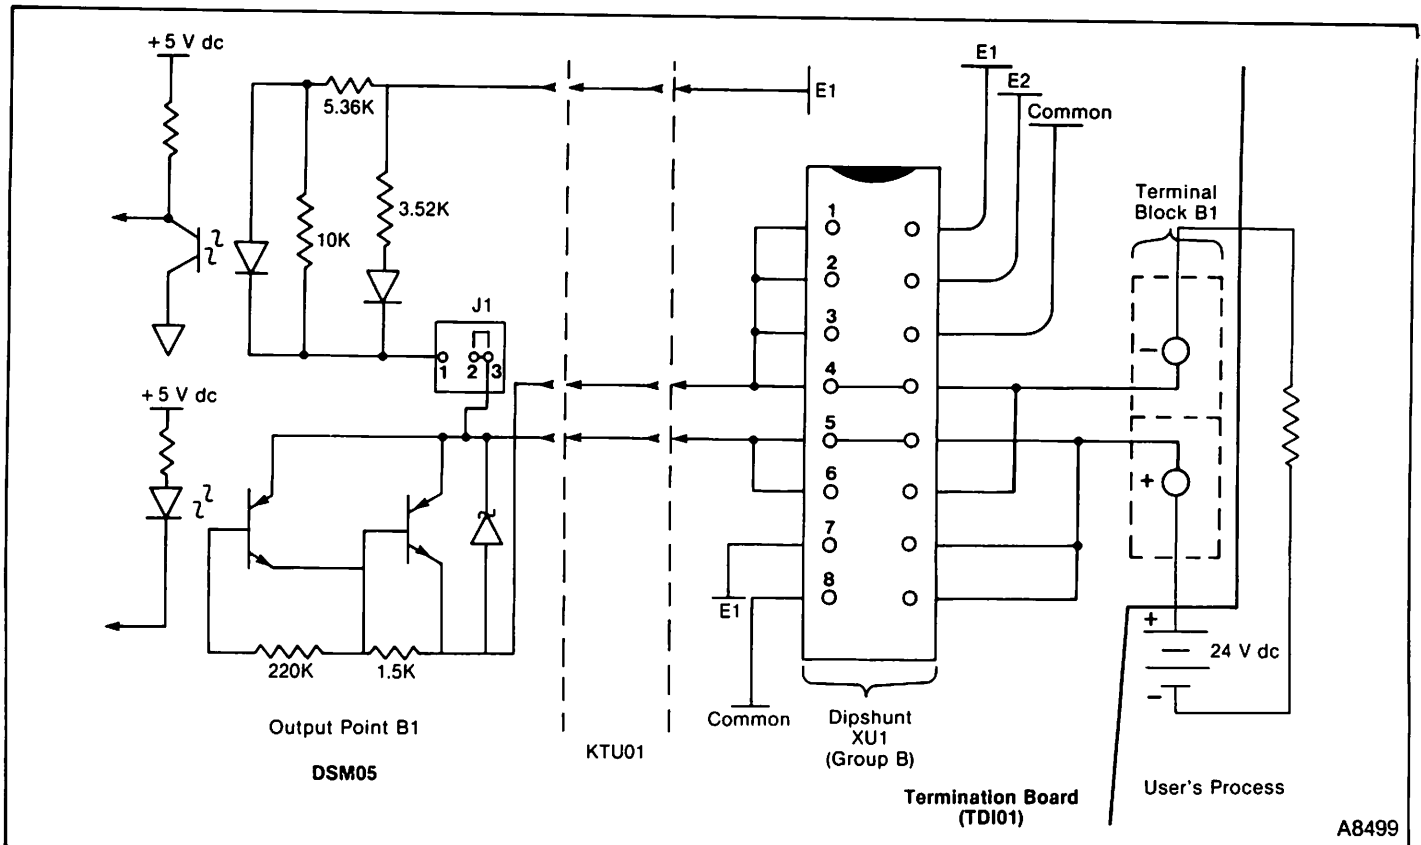

FIGURE 15 — Using the DSM05 for Isolated Outputs.
**Example 3: Isolated Outputs.** Figure 15 shows how the user sets up an I/O point so that the DSM05 can handle certain types of isolated outputs. Note that, in this example, jumper J1 is between posts 2 and 3. Here, the user supplies both 24 V dc and ground (common) in his process. He: